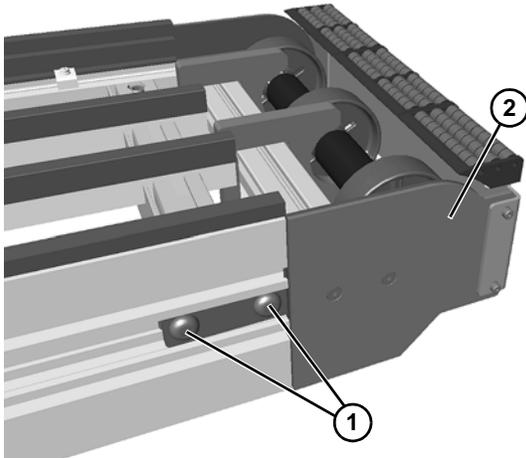

Figure 87
2. Loosen two socket head screws (Figure 87, item 1) on each side of idler roller transfer tail assembly (Figure 87, item 2).